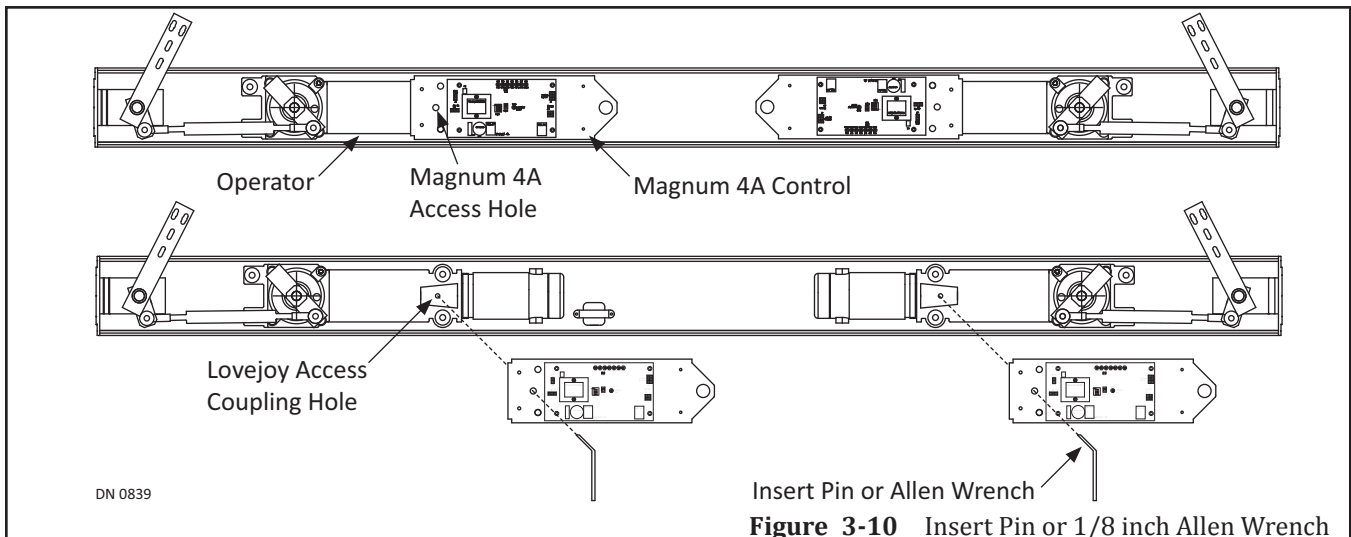

Figure 3-10 Insert Pin or 1/8 inch Allen Wrench
3. Insert a Pin or 1/8 inch Allen Wrench into the access hole located on the Magnum Control mounting bracket which leads to the Lovejoy Coupling access hole in the Operator. Please see Figure 3-10.